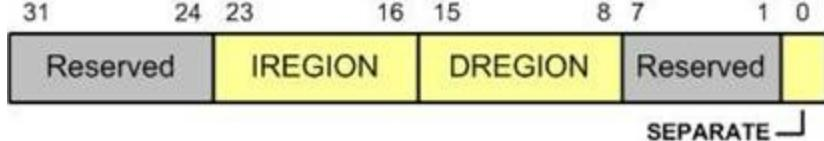

Figure 15-13: MPU\_TYPE register
of the ARM MPU\_TYPE register tells us if this option is supported. If D0=0, it means the memory is unified and does not support separate regions for code and data. In that case, the DREGION is used for both code and data and there is no IREGION designation. See Figure 15-13 and Table 15-4. It also means we use the DREGION part of the MPU\_TYPE register to see the number of regions the ARM Cortex support. In many cases this is set to 8 which is the maximum number of regions support by a given ARM chip. We have no control over it since it is read only (RO) register.